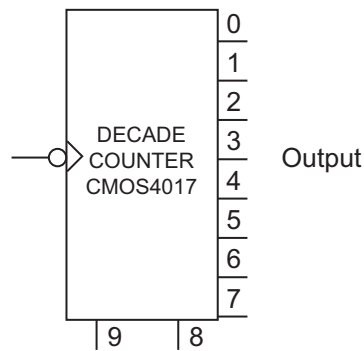

Fig. 26
- (b) A simplified diagram of the CMOS4017 decade counter illustrating the output pins and the clock pulse CLK input pin is shown in Fig. 26.
- (i) Use Fig. 26 to sketch an input pulse signal going to the CLK input pin. [2]